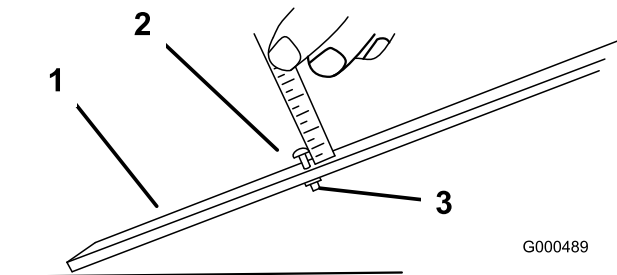

Figure 42
- Loosen the nut on the gauge bar (Figure 42) and set the adjusting screw to the desired height-of-cut. The distance between the bottom of the screw head and the face of the bar is the height-of-cut.